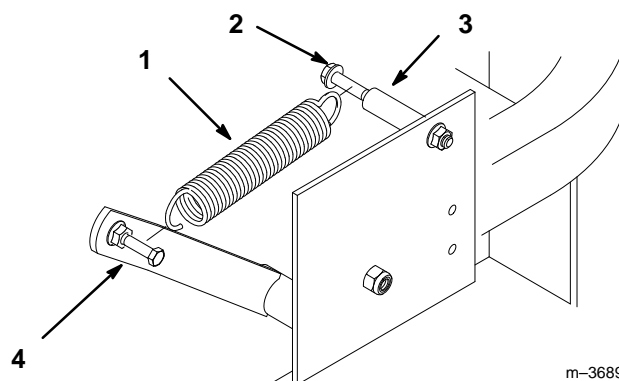

Figure 10
5. Install the PTO clutch spring. Hook one end around frame bolt, between washer and spacer (Fig 10). Stretch spring and hook other end to the PTO idler arm.